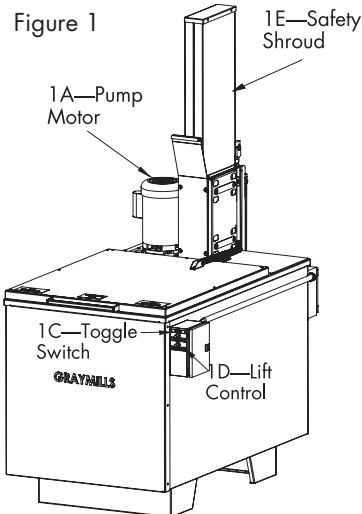

Figure 1
1. Keep clear during operation. Turn on lift control power (page 7, Figure 1, 1D). Press and hold toggle switch (1C) up to raise the lift platform to the uppermost position and open the lid.
The pump motor (page 7, Figure 1, 1A) is equipped with sealed ball bearings and requires no additional lubrication.
Press down and release the lift platform toggle switch (page 7, Figure 1, 1C). Keep clear. The timer will start, the lift platform will lower into the tank, lid will close, and the platform will begin agitating up and down with an approximately 3" stroke. For a time-controlled soak, lift platform may be held stationary at lower position by pressing and holding the toggle switch (1C) down for several seconds.
When the unit is not in use, it is recommended that the lift platform be sent to the lower position and lid closed (this will reduce heater power consumption on heated units and reduce solvent loss on solvent-based units). In order to maintain this position indefinitely, press and hold the toggle switch (page 7, Figure 1, 1C) down until the platform is at its lowermost position. Turn off the lift control power (1D) to disable the timer and lift controls.